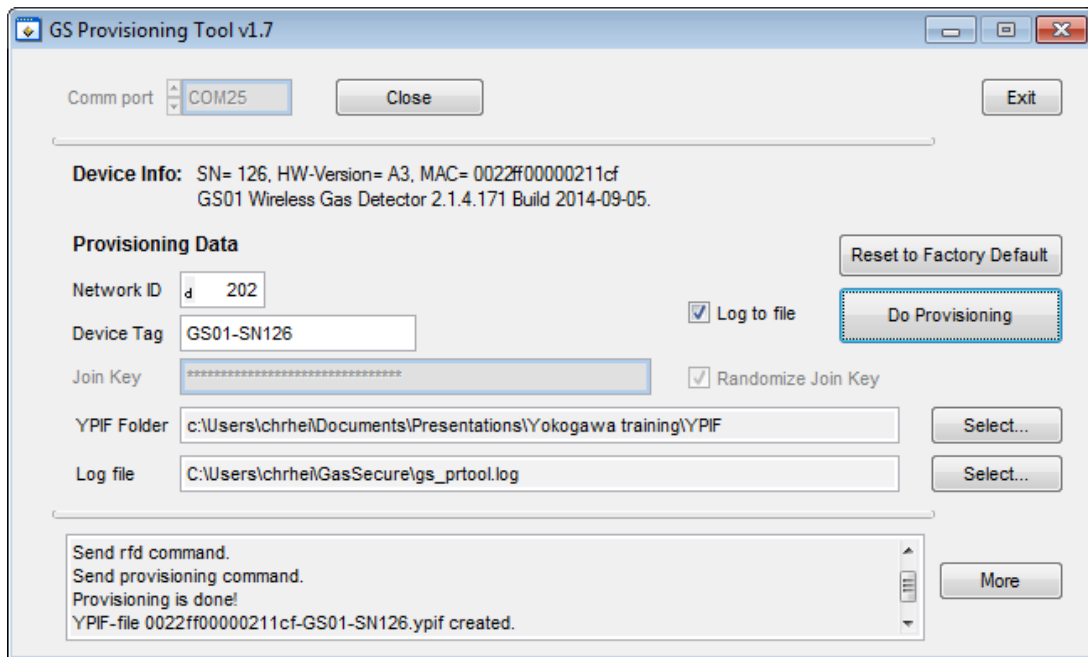

Figure 3-1: GS Provisioning Tool
- b) Run the GS Provisioning Tool and select the correct COM port. Press the “Connect” button and verify that the device info is displayed, cf. Figure 3-1.
- c) Enter the required network ID (make sure the correct number format is selected: Decimal, Hex, Octal or Binary) and device tag, cf. Figure 3-1.